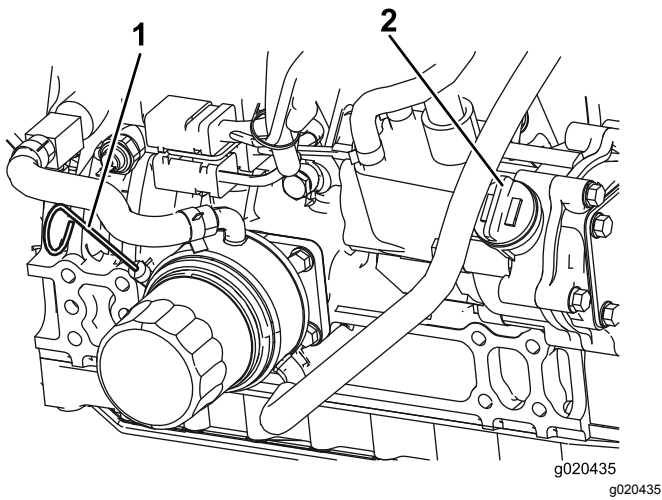

Figure 74
3. Remove the dipstick, wipe it clean, install the dipstick into the tube, and pull it out again. The oil level should be between the full and add marks (Figure 74).